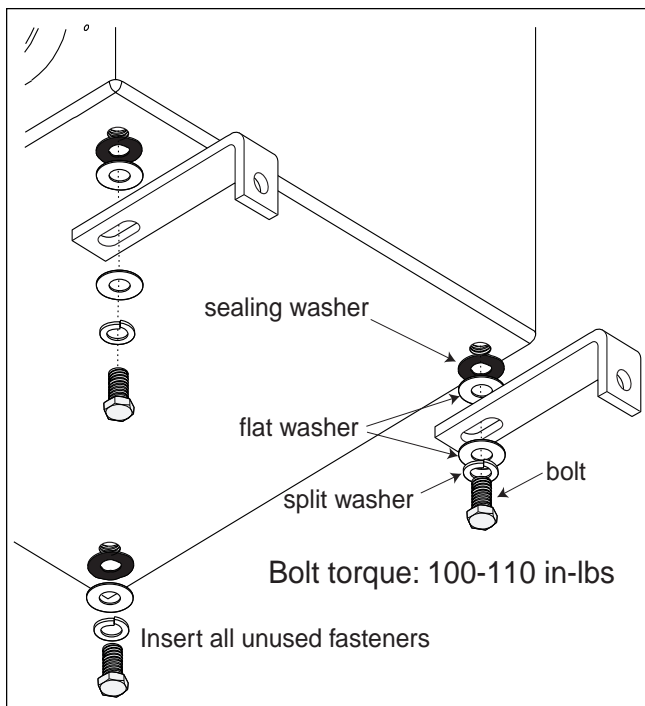

Figure 9. Bottom Support Bracket Assembly
- Identify which side of the cabinet will be mounted to the pole and on that side attach (finger tight) the slotted end of the two bottom support brackets. Ensure the short end will point down after the cabinet is upright and that the sealing washers are against the bottom of the cabinet. Refer to **Figure 9**. Ensure a flat washer is on both sides of the support bracket.